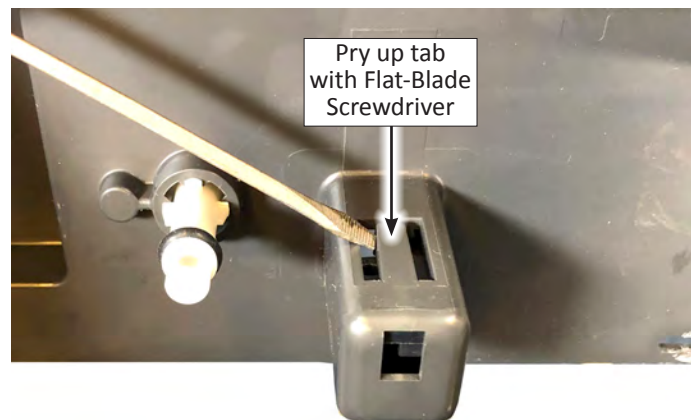

Figure 7
1. To remove the Level Sensor(s), use a small flat-blade screwdriver to pry up on the locking tab and slide sensor out of compartment. See Figure 7.